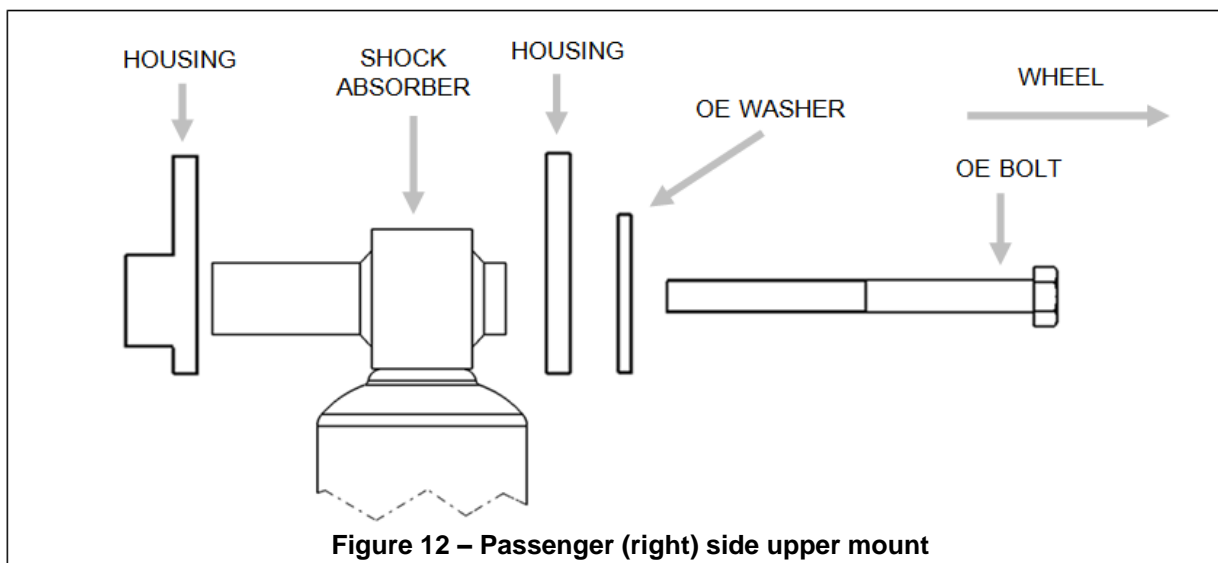

Figure 12 – Passenger (right) side upper mount
- U. Install the passenger side shock in the original location with the top mount offsetting away from the vehicle as shown in Figure 12.